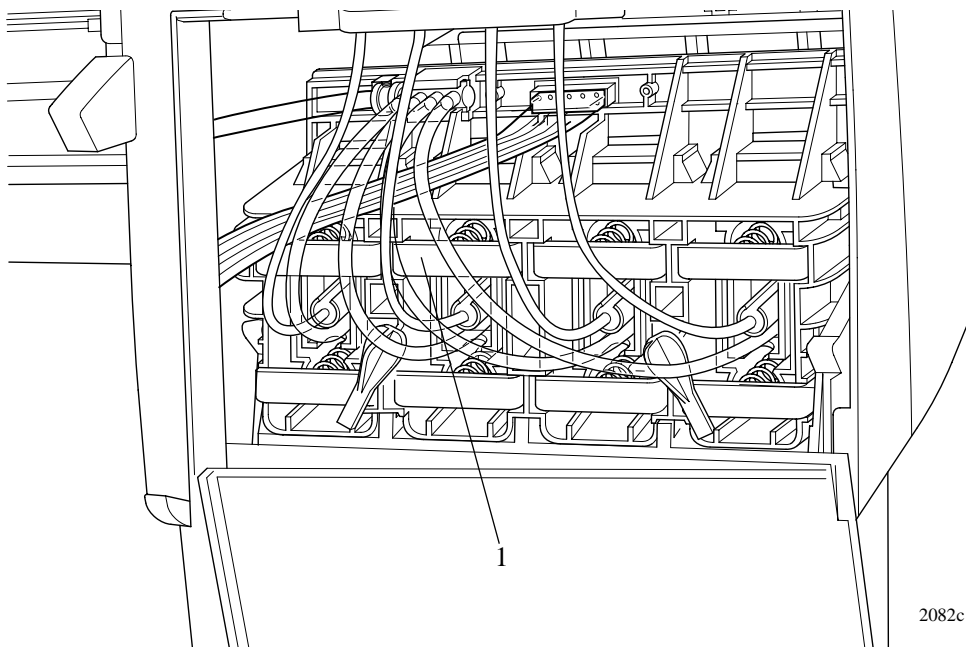

Figure 11: Ink Cartridge Tube Connector (pulled back)
4. Slide the ink cartridge tube connector assembly towards you (refer to Figure 11).